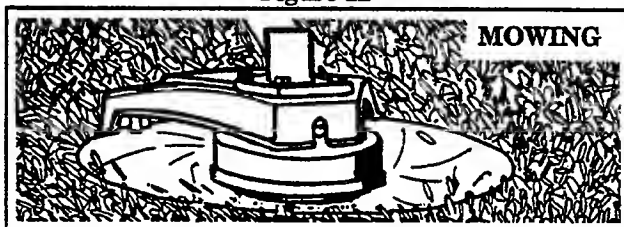

Figure 13
3. **MOWING** - Figure 13. Your trimmer is ideal for mowing in places conventional lawn mowers cannot reach. In the mowing position, keep the line parallel to the ground. Avoid pressing the head into the ground as this can scalp the ground and damage the tool.